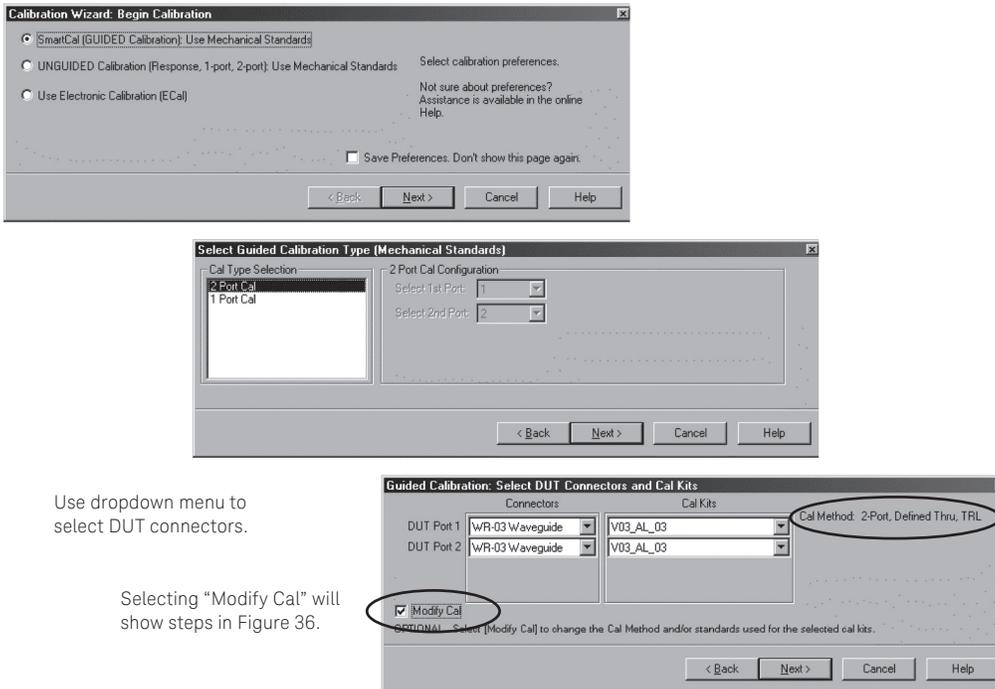
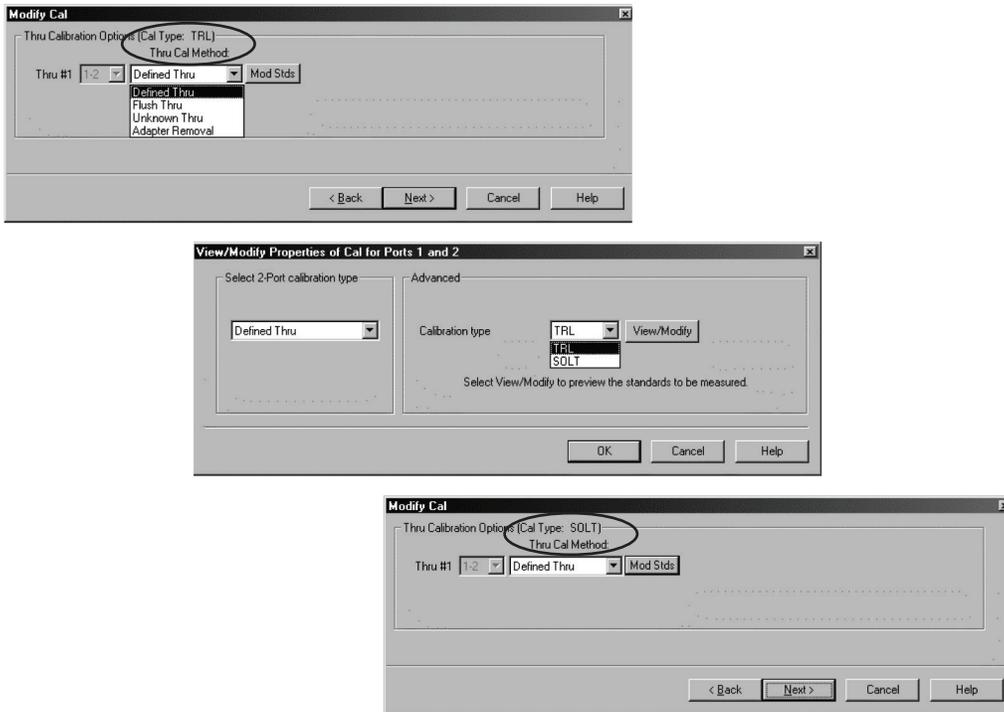

Figure 36. Select SmartCal and DUT connectors.
Figure 37. Changing Cal Type.
2. Select **SmartCal (GUIDED Calibration)**, then click **Next>** (Figure 36, top)
3. Select **Cal Type**, click **Next>** (Figure 36, middle)
4. Use dropdown menu and then the scroll bar to select the DUT connectors (Figure 36, bottom). Also, use dropdown menu to select the available calibration kit based on the selected DUT connectors. Notice, the default **Cal Method** is **2-Port, Defined Thru, TRL**. Plus, if “Modify Cal” is not selected, then steps shown in Figure 37 will be skipped. Click **Next>**
5. Having selected “Modify Cal” allows you to change the **Cal Type**. Figure 37 (top) shows **Cal Type: TRL**, you can click **Mod Stds**, and then use the dropdown menu on the right to select a different cal type. Figure 37 (middle) shows the selection of **SOLT**. Clicking **OK** returns you to the previous screen, and this time it shows the **Cal Type: SOLT** (Figure 37, bottom).